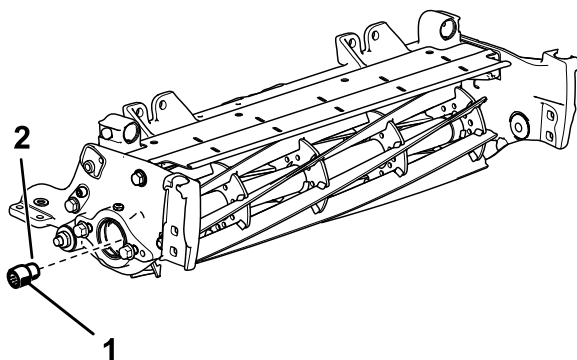

Figure 3
3. Remove the existing splined insert from each end of the reel shaft using the reel driveshaft tool (Part No. TOR4112 for the 5-inch reel and Part No. TOR4074 for the 7-inch reel). Refer to Figure 3.